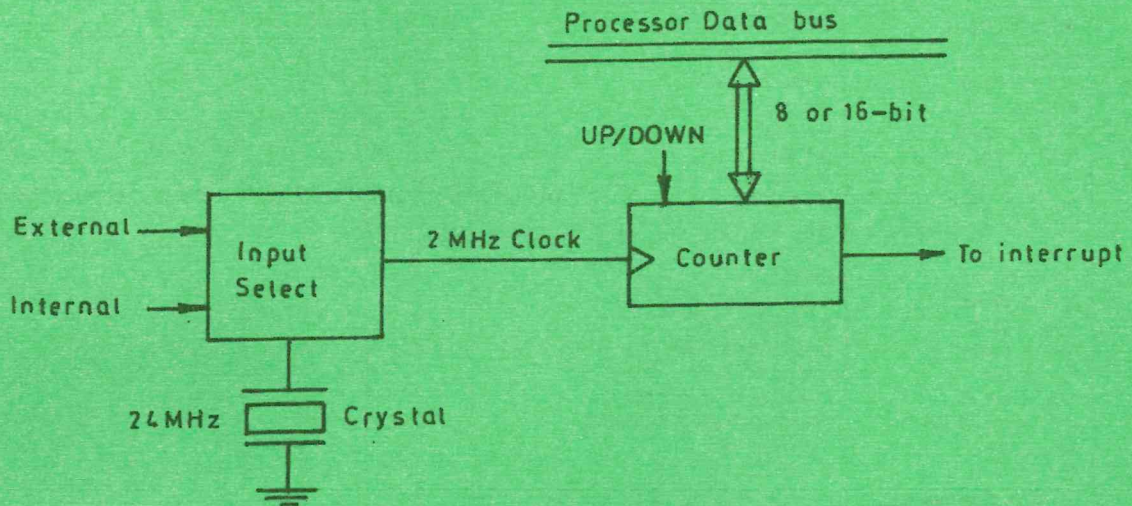

Fig. 4
- (b) Figure 4 shows a block diagram of an 8051 microcontroller timer circuit.